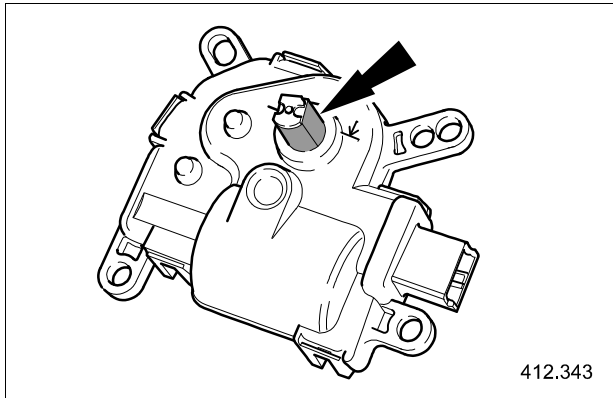

Fig. 8
- 19 Apply suitable adhesive to the actuator shaft (see Fig. 8).